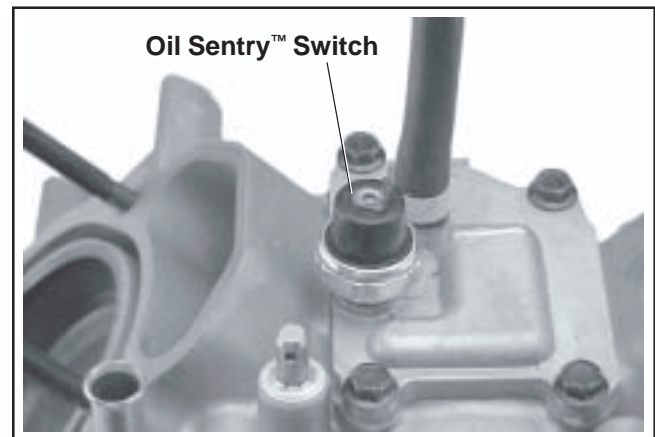

Figure 6-5. Oil Sentry™ Location.
The Oil Sentry™ pressure switch is installed in the breather cover. See Figure 6-5.
2. Install the switch into the tapped hole in the breather cover. See Figure 6-5.